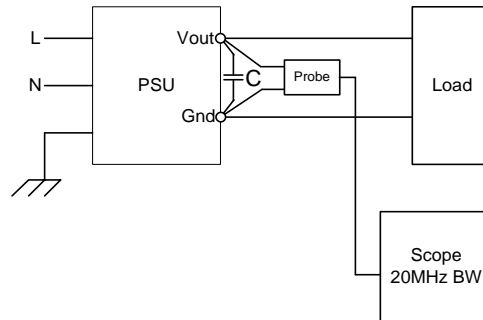

Figure 6. Output Ripple Test Setup
- Outputs bypassed at the point of measurement with a parallel combination of 10 μF tantalum capacitor in parallel with 0.1 μF ceramic capacitors, referring the setup in *Figure 6*.